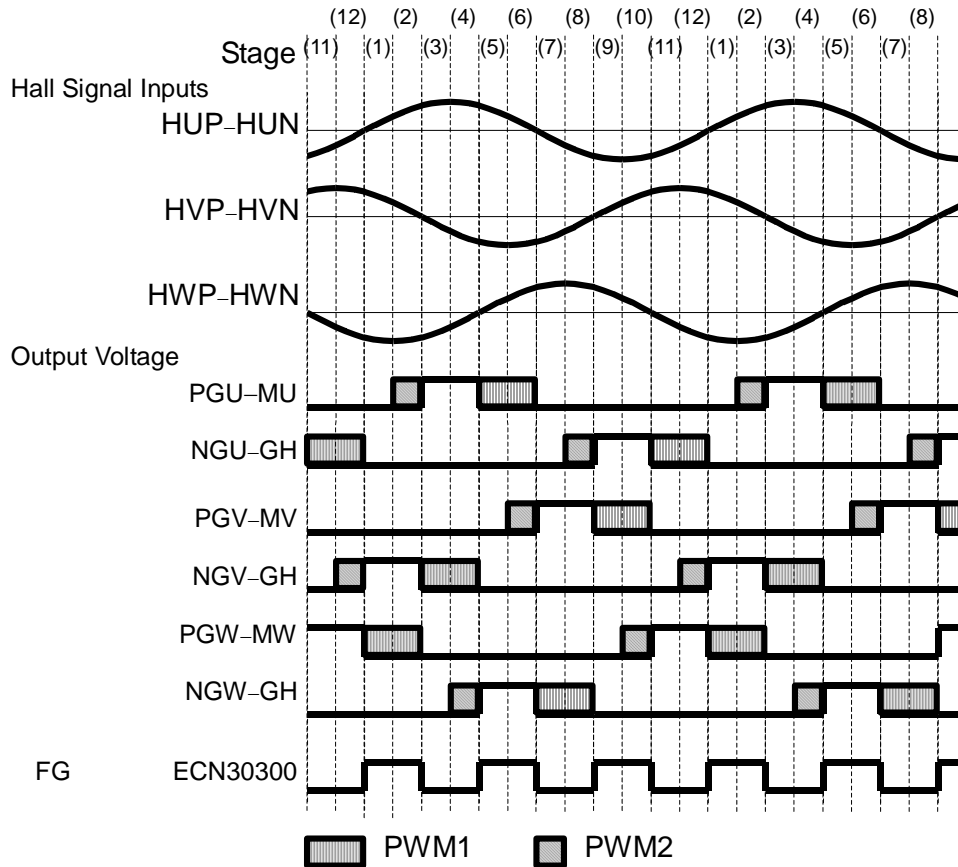

Figure 11 Timing Chart of Reverse Rotation
Figure 11 shows timing chart of reverse rotation of a motor. In reverse rotation, there is not an overlap period after phase switch shown in the timing chart of item 4.2. In this case, the motor current decreases rapidly after the phase switch. Therefore, there is not an effect of torque ripple reduction control.